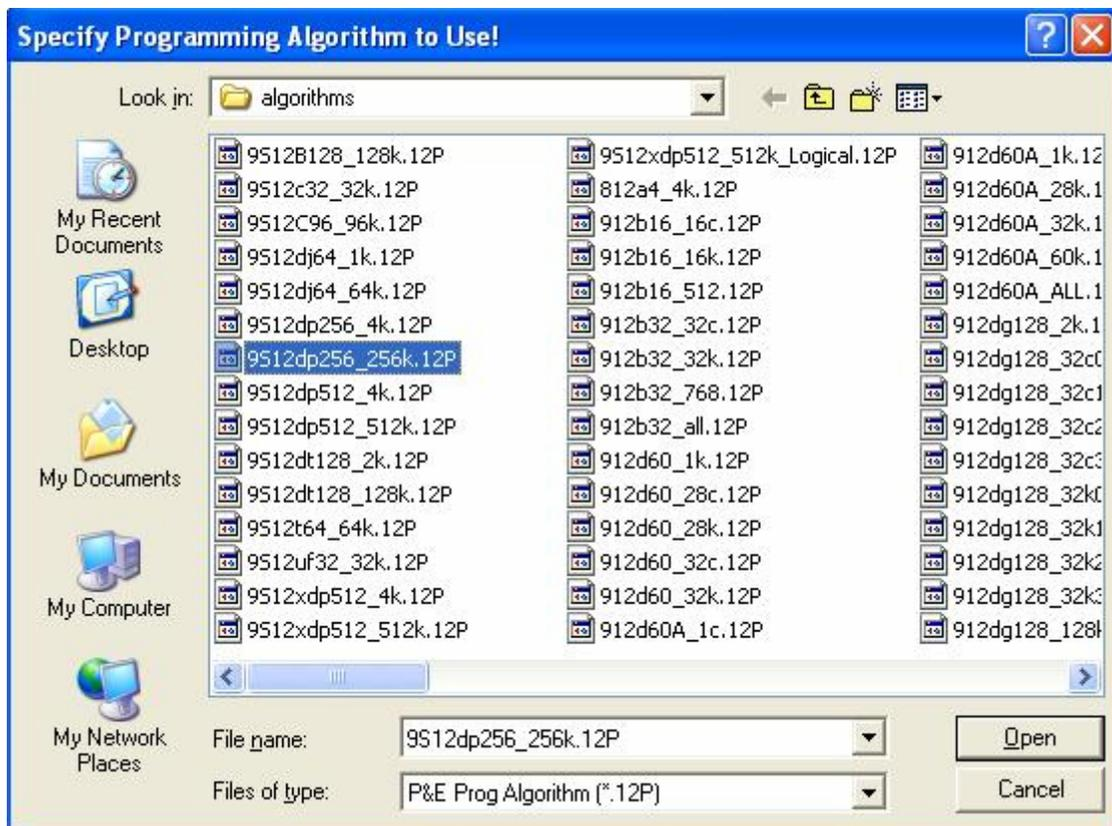

Figure 4. CM Choose Module .12P
6) A prompt should appear, allowing selection of the module to be used. Select “9s12dp256_256k.12P” as shown in figure 4. If the prompt does not appear, select the “CM Choose Module .12P” option.